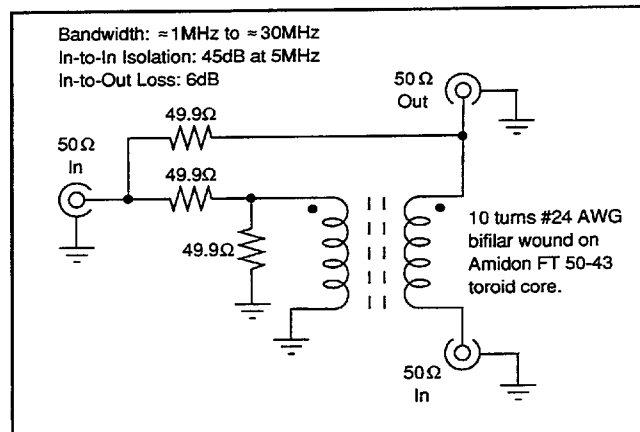

FIGURE 5. Passive Signal Combiner.
7. Two-tone testing will require isolation between test signal generators to prevent IMD generation in the test generator output circuits. A passive (hybrid transformer) signal combiner can also be used (Figure 5) over a range of about 0.1MHz to 30MHz . This combiner's port-to-port isolation will be $\approx 45\text{dB}$ between signal generators and its input-output insertion loss will be $\approx 6\text{dB}$. Distortion will be better than -85dBC .